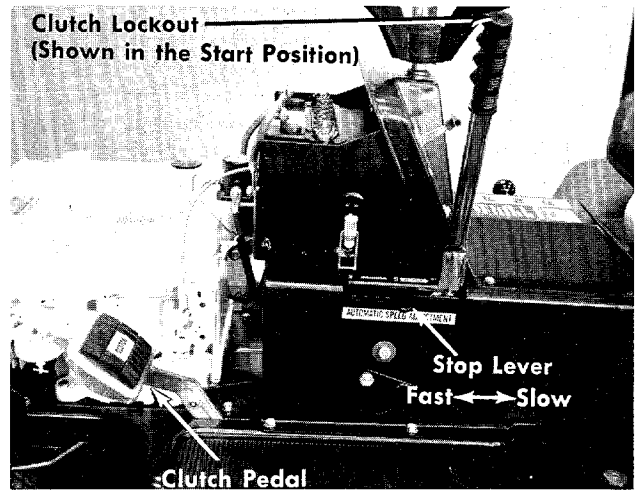

FIGURE 8. LEFT HAND CONTROLS
e. Clutch Pedal. The clutch pedal is used to disengage the drive mechanism. Depressing the clutch pedal at any time will slow you down or, if depressed all the way, will stop the mower. See figure 8.
f. Clutch Lockout. When the clutch pedal is depressed all the way it can be locked by placing the clutch lockout in the START position as shown in figure 8. The clutch lockout must be in this position before the engine will start.
g. Stop Lever. The stop lever allows you to regulate the maximum ground speed of the riding mower by setting the stop lever in any one of the five settings. The farther forward the stop lever is set, the faster your ground speed. See figure 8.
Step 2. Place the clutch lockout in the START position. See figure 8.
- Step 3. Set the stop in the slow position. See figure 8.